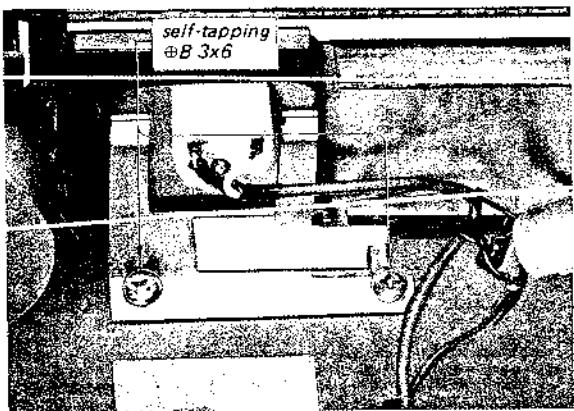

Fig. 2-13. Meter holder and stereo lamp removal
1. Remove the two self-tapping screws ($\phi B 3 \times 6$) securing the meter holder to the chassis as shown in Fig. 2-13.
3. Remove the two self-tapping screws ($\phi B 3 \times 6$) securing the meter holder to the chassis as shown in Fig. 2-13.